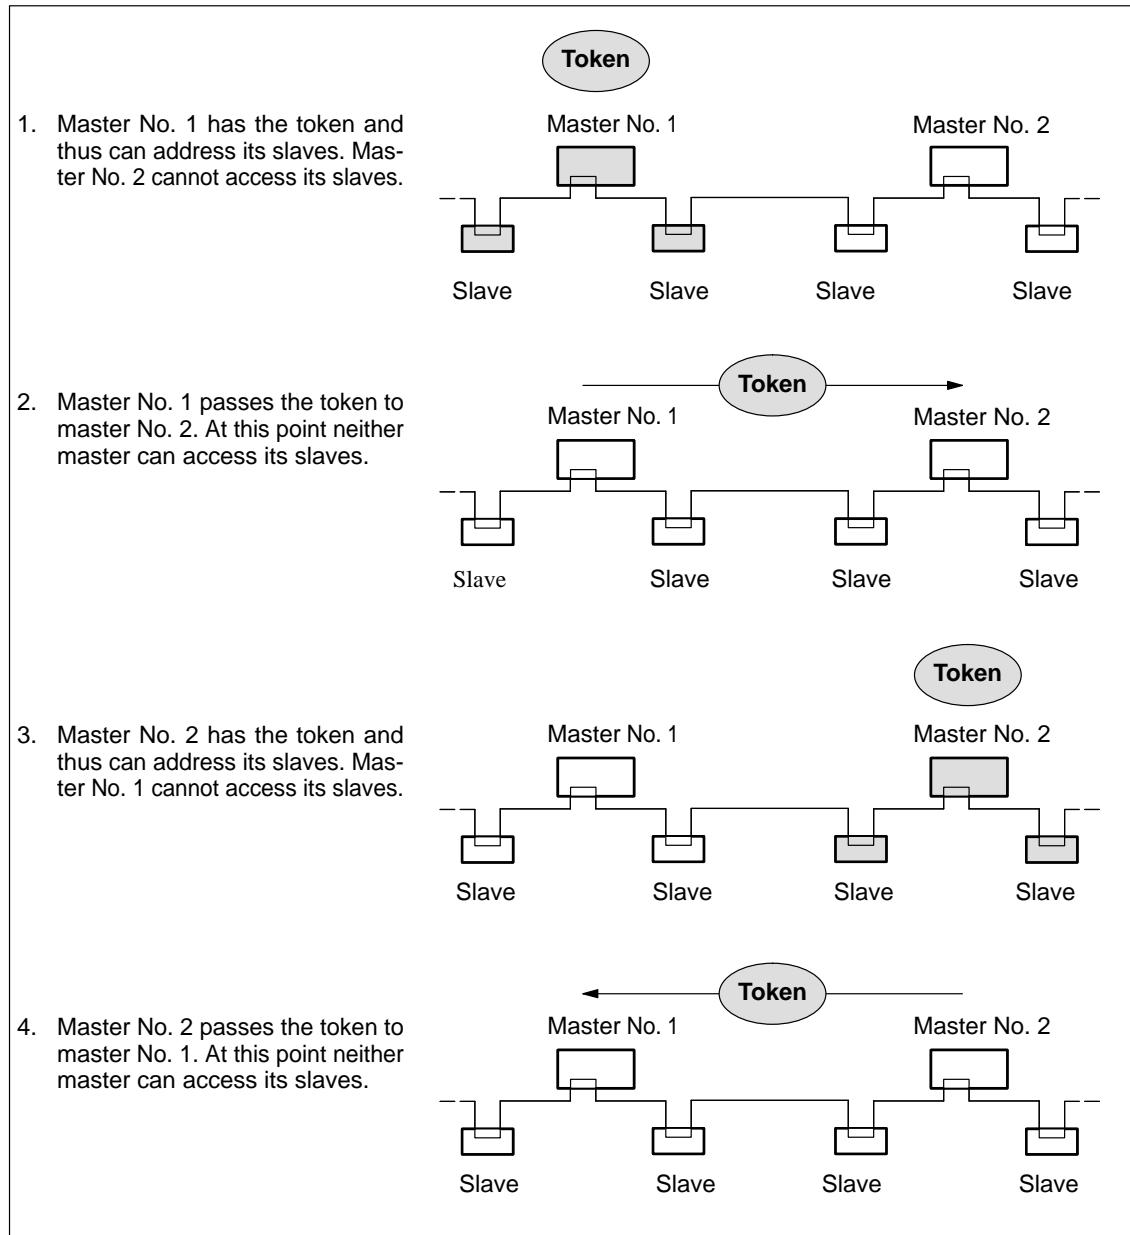

Figure C-10 Token passing between two masters
- Power-up phase: The DP master runs the program shown in Fig. C-10 once, starting with the station connecting cycle. This is followed by steady-state operation.
Fig. C-10 illustrates how the token is passed from one master to another (Steps 1 to 4 are repeated again and again). The same principle applies for any multimaster configuration.